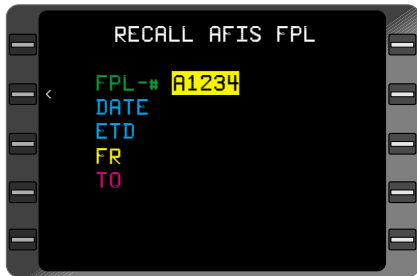

Figure 7-64
5. **FPL #** - INSERT desired AFIS Flight Plan number. (Figure 7-64)